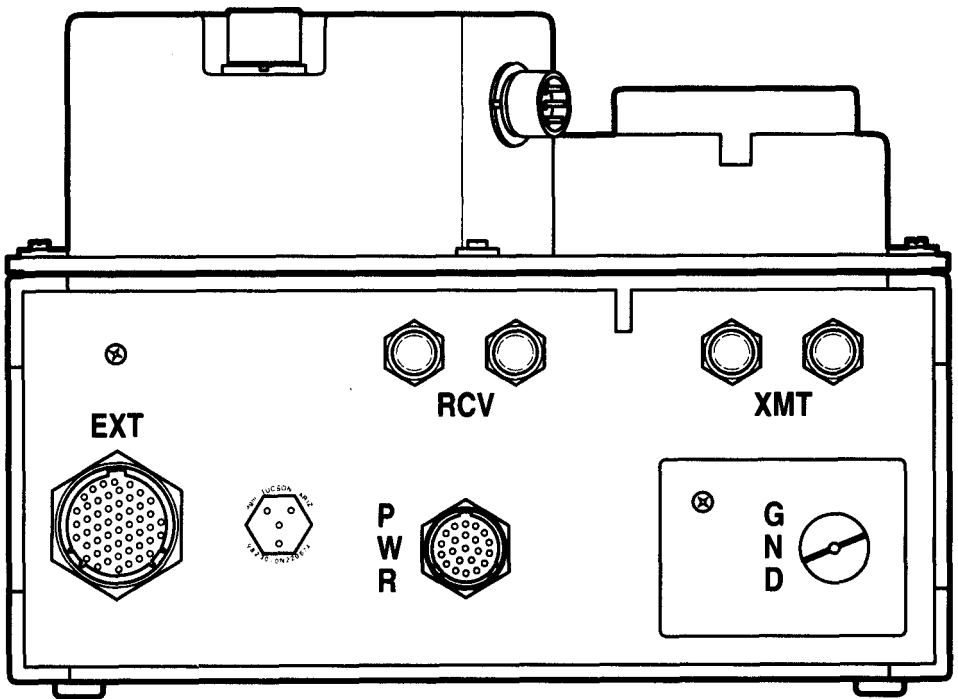

Figure 2-2. KY-68 Rear View.
- a. Connect the data terminal equipment or data adapter cable to the EXT connector or your KY-68. See figure 2-2.
- e. If your KY-68 is powered by the common battery from the switch, disconnect the field wire leads at the RCV and XMT binding posts. See figure 2-2.